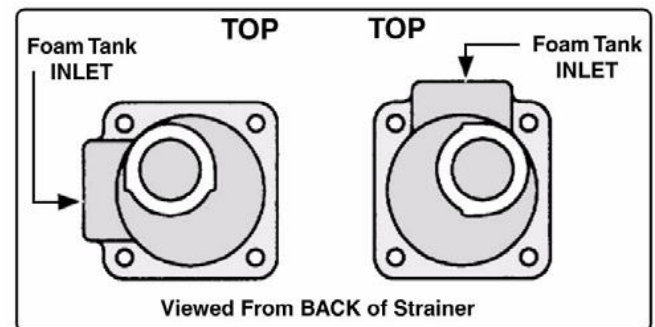

Figure 25: FS Strainer Orientation
2. When selecting the strainer location make sure there is sufficient space behind the pump panel to attach hoses and fittings. Also make sure the inlet connection port is oriented correctly. (See Figure 25: **FS Strainer Orientation**).
8. Make sure the strainer is properly oriented (see Figure 25: **FS Strainer Orientation**). Apply Loctite #242 Threadlock Compound (or equal) to the screws then secure the strainer body and nameplate to the apparatus. Install the strainer cap.